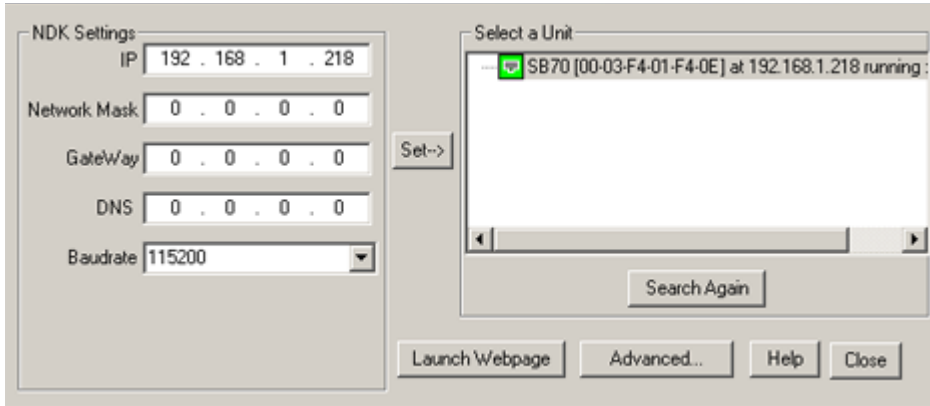
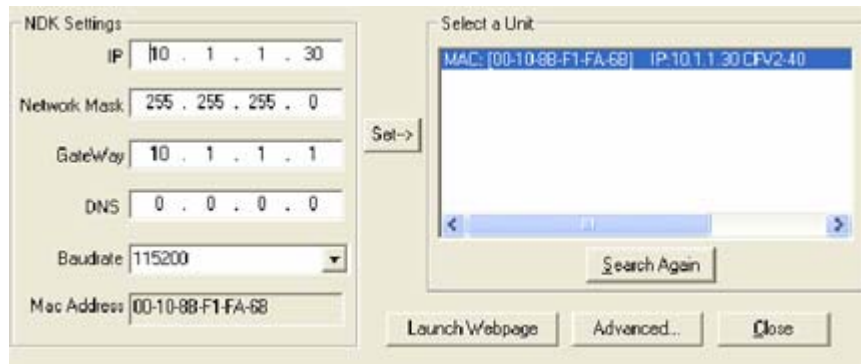

FIGURE 3-3. PS FIND SCREEN
FIGURE 3-4. SETTING A STATIC IP ADDRESS
The PSfind utility can be downloaded from the Kepco web site at www.kepcopower.com/drivers/drivers-dl3.htm#klp. This utility finds all operational Kepco power supplies connected to the LAN and then shows the pertinent addresses of the models found. To run the utility from your PC download the psfind.zip file to your computer. Extract psfind.exe from the zip file to a location of your choice, then double-check psfind.exe to run the application. A separate window opens as shown on Figure 3-3.
- To set a static IP address, enter the static address in the IP ADDRESS field and the Mask address in the Network Mask field (Figure 3-4 shows a the IP Address, Network Mask and Gateway changed from that shown in Figure 3-3), then highlight the desired unit and click the Set button. There will be a short pause while parameters are updated. If you do not see your device in the "Select a Unit" window, make sure it is turned on and connected to the network, then click the Search Again button.